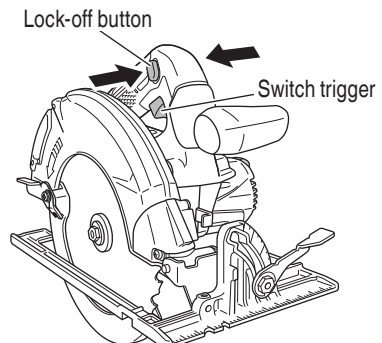

Fig. 22
3. Operation of switch (Fig. 22)
Remaining battery power can be verified by pulling on the switch to make the remaining battery indicator lamp light up red. (Fig. 22)